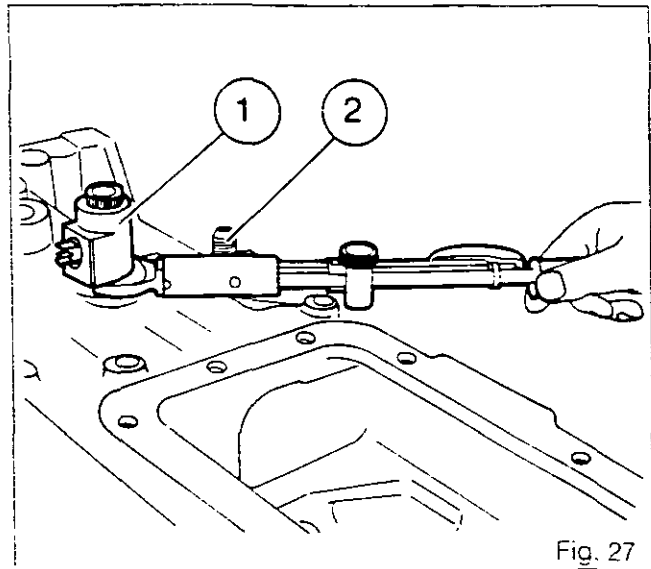
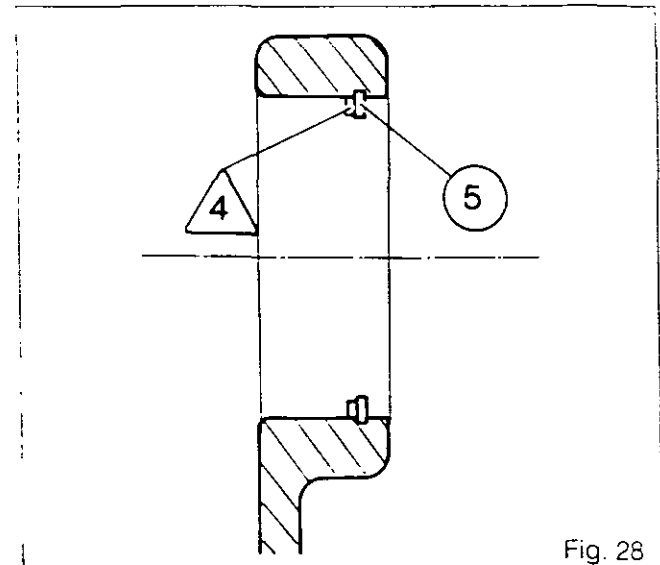
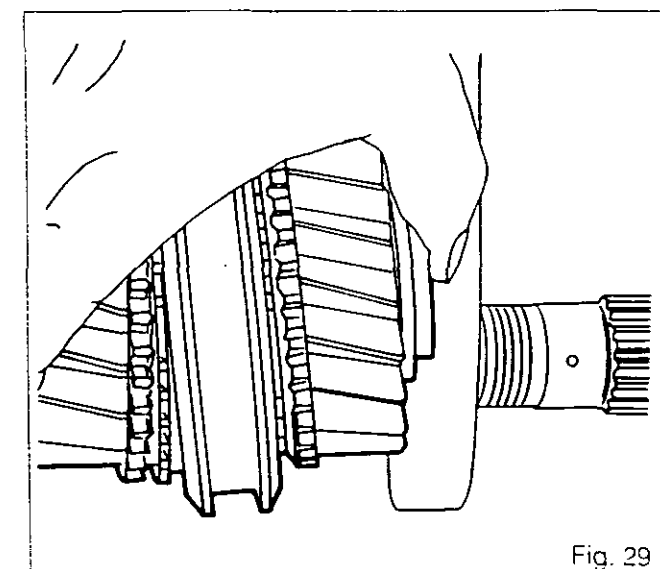

Fig. 27
Fig. 28
Fig. 29
78. If the gearbox is fitted with Speedshift, fit the solenoid valve (1) and tighten to a torque of 18-20 Nm (Fig.27).
79. Fit the T-piece (2) for the A/B feed pipe (Fig.27).
82. Using a press, fit the bearing cone (17) on to the shaft (69).
83. Fit the circlip (70).
84. Fit the circlips (5) and (15).
85. Refit the shim (4).
**Note: (Fig.28) Position the shim (4) on the circlip (5) side.**
87. Fit the shims [3] and cups (2) and (16).
88. Assemble 1st gear (7) and its bush (8), the lock plate (9), the 1st gear synchromesh cup (10), the 1st and 2nd gear synchromesh (11), the 2nd gear synchromesh cup (12), the cone (13) and the 2nd gear (14).
90. Insert the shaft through the rear of the housing retaining the synchromesh/gear assembly (Fig.29).
**Note: Check that the bush (8) is correctly positioned in the gear (7).**
**Note: Position the shim /4/ on the circlip (5) side (Fig.28).**